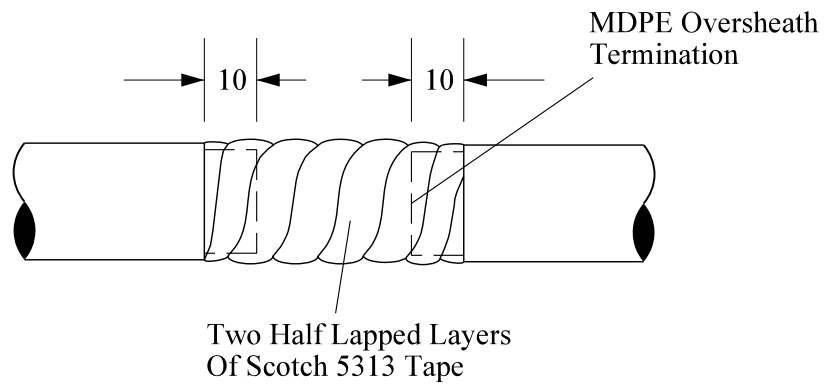

Fig 2.
5. Replace the MDPE oversheath and apply two half lapped layers of '3M' 5313 tape the tension of the 5313 tape shall be such to cause the width of the tape to reduce to $\frac{3}{4}$ of its normal width, the tape shall then overlap onto the oversheath by 25mm – Fig 2.
6. Apply two half lapped layers, under tension of '88' black PVC tape over the previously applied '3M' 5313 tape, overlapping onto the MDPE oversheath. – Fig 2.